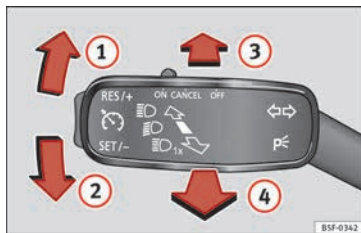

Fig. 131 Turn signal and main beam lever.
- Move the lever »»» Fig. 131 up ① or down ②.
- Press the lever »» Fig. 131 forward in the direction indicated by arrow ③.
- Pull the lever back to its original position in the direction indicated by arrow ④ to switch the main beam off.
- Pull the lever »» Fig. 131 towards the steering wheel (point of resistance) in the direction indicated by arrow ④.
- Move the turn signal lever **»» Fig. 131** **»» page 123** up or down to turn on the right or left-hand parking lights respectively.